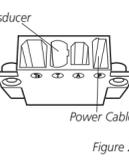

Figure 25
- Insert the cable connectors into the connector holder. The cable connectors are labeled, and there are corresponding labels on the connector holder (Figure 25). The slots for the connectors are keyed to prevent reverse installation, so do not force the connector into the holder.